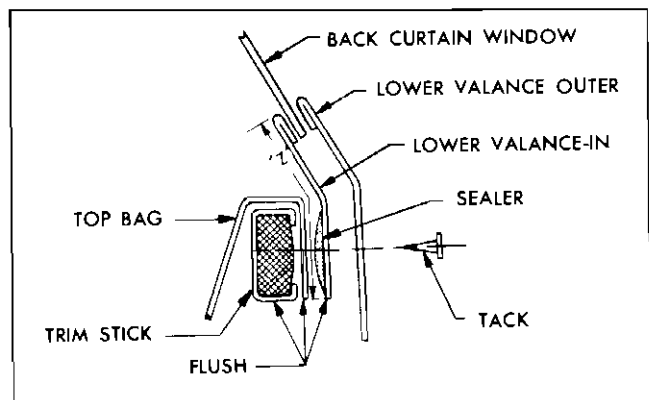
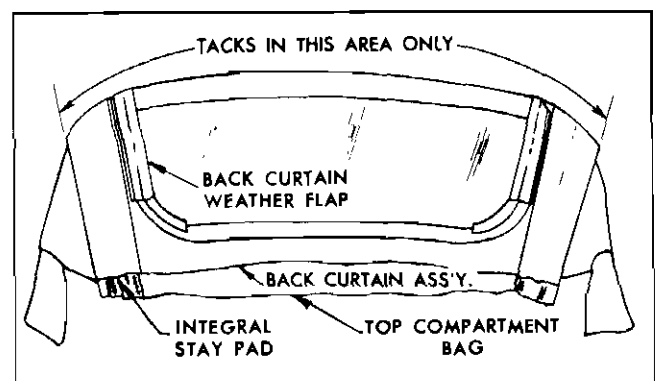

Fig. 7-32 Back Curtain Bench Operations
Fig. 7-36 Tacking Back Curtain
bly over with exterior (vinyl) surface of back window valance facing down. Apply bead of convertible top sealer along lower edge of back window curtain inner layer in area which will be tacked to rear trim stick (Fig. 7-32).
11. Tack curtain assembly to rear trim stick (Fig. 7-36). Tacks should be placed close to each side of every bolt hole in trim stick. Then pierce or punch back curtain assembly for each trim stick bolt. See Fig. 7-32 for tacking of back curtain lower valances at body centerline.